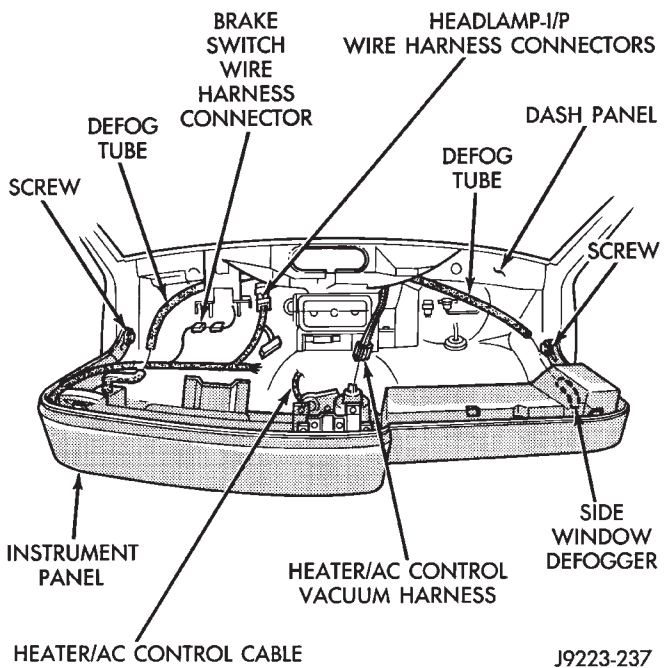

Fig. 17 Instrument Panel Tilted Rearward
- the temperature control cable from the upper section of instrument panel (Fig. 17).
(7) Loosen the I/P-to-cowl side panel screws (Fig. 17).
(8) Pull the instrument panel outward from the